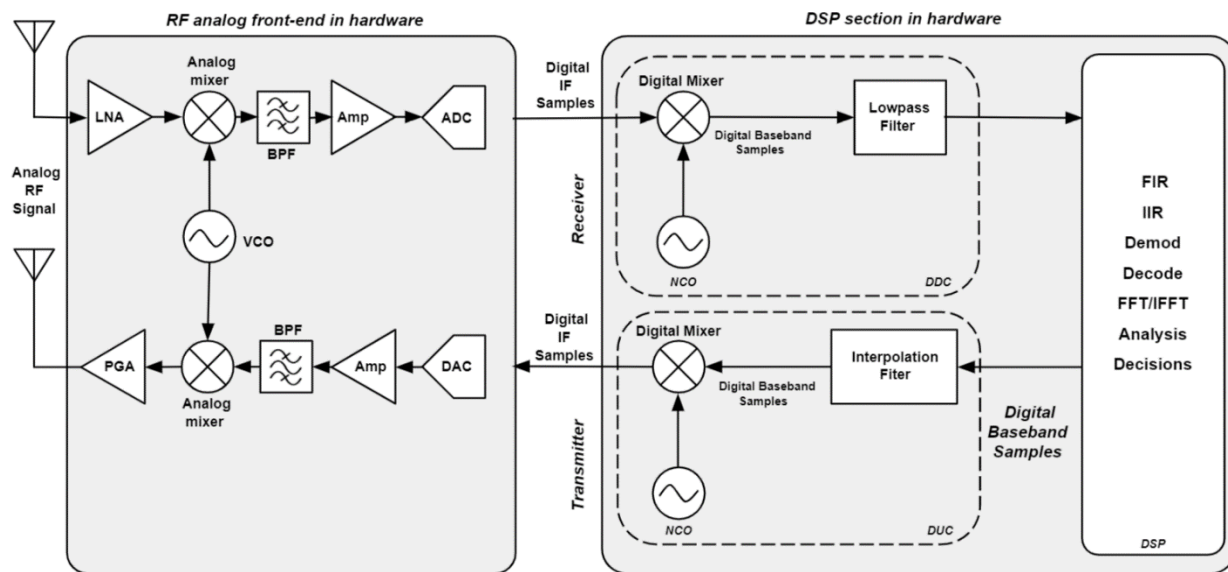

Figure 5: Communication System with Analog and Digital Subsystems
Figure 5 shows a common architecture in which the RF analog front-end (AFE) consists of all analog blocks to amplify, filter, and gain the analog signal. Meanwhile, the digital signal processor (DSP) section filters and processes the information. To convert signals from the analog subsystem to the digital subsystem in the receive path (RX), an analog-to-digital converter (ADC) is used. To convert signals from the digital subsystem to the analog subsystem in the transmit path (TX), a digital-to-analog converter (DAC) is used.